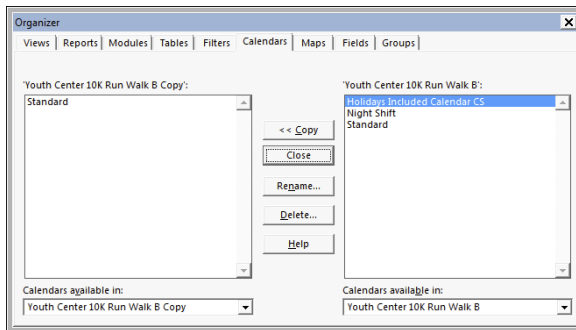

Figure 8-5:
7. **In the list on the left, click the calendar you want to copy and then click the Copy button, as shown in Figure 8-5.**